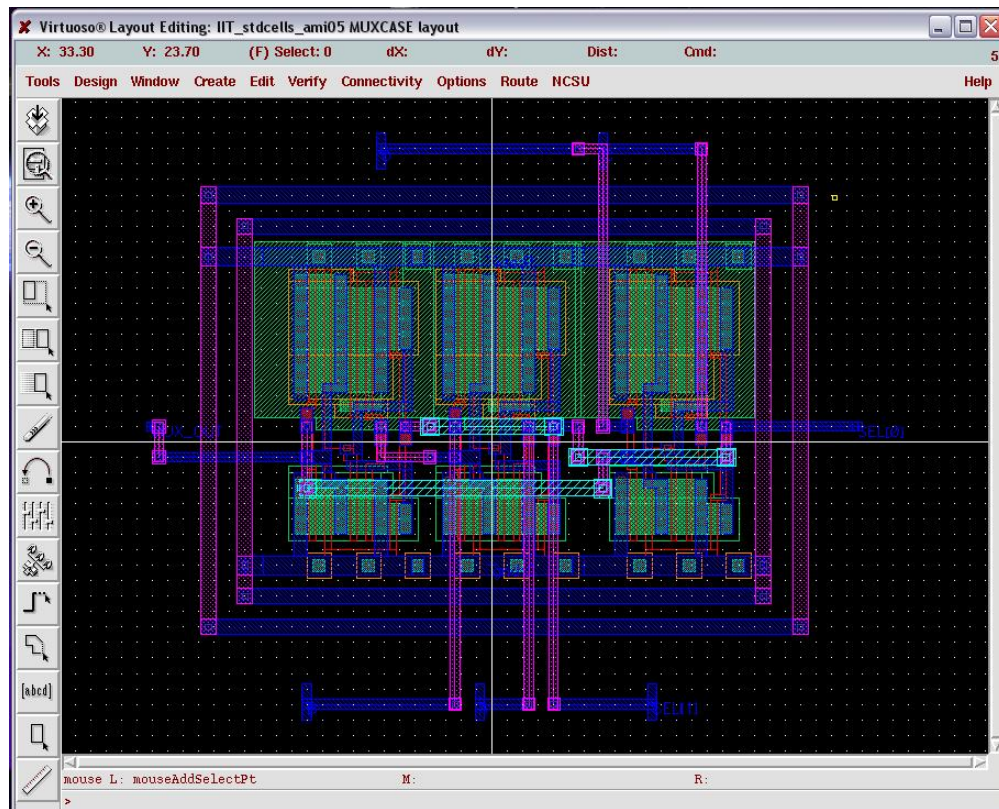

Figure 24: Final Circuit
15. Now you should see the entire design, as shown in Figure 24.